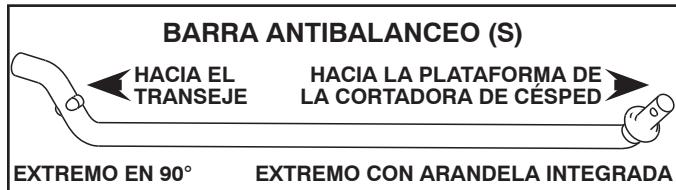

Fig. 9
**5. SI LA TIENE, INSTALE LA BARRA ANTIBALANCEO (S) (Vea Fig. 9 - 11)**